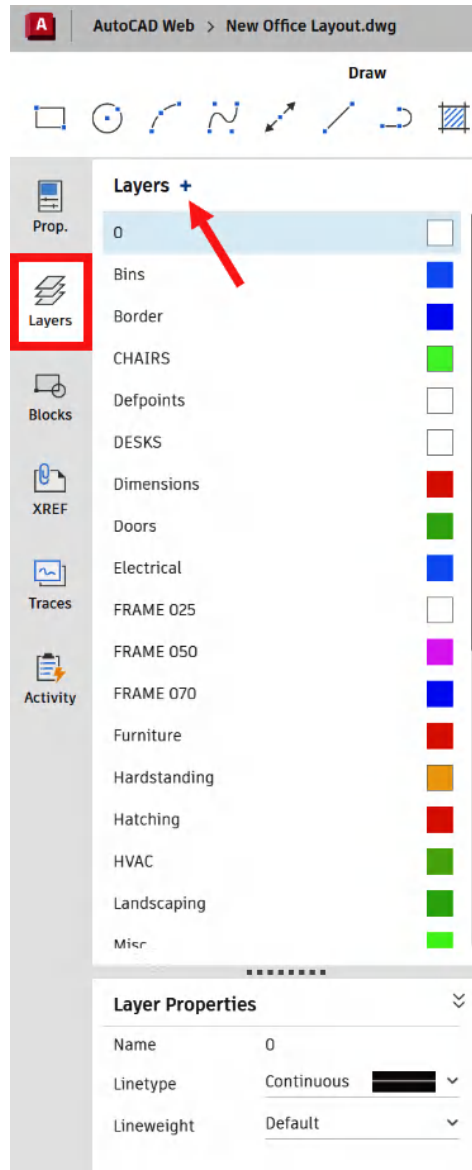
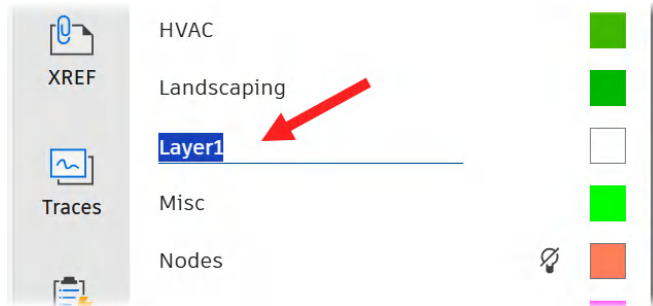

Figure 15.14: The Layers panel in AutoCAD Web
Figure 15.15: The new layer ready to be named in the Layers panel
9. Click on the **Layers** icon to see the **Layers** panel appear, as shown in *Figure 15.14*.
10. If you click on the + symbol next to the word **Layers** in the panel shown in *Figure 15.14*, you can create a new layer in the drawing, as shown in *Figure 15.15*.